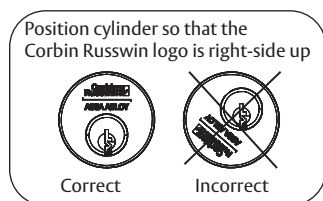

Figure 6-5A
1. Secure cylinder by threading into lock body. Ensure Corbin Russwin logo is positioned at the top of the cylinder (Figure 6-5A)